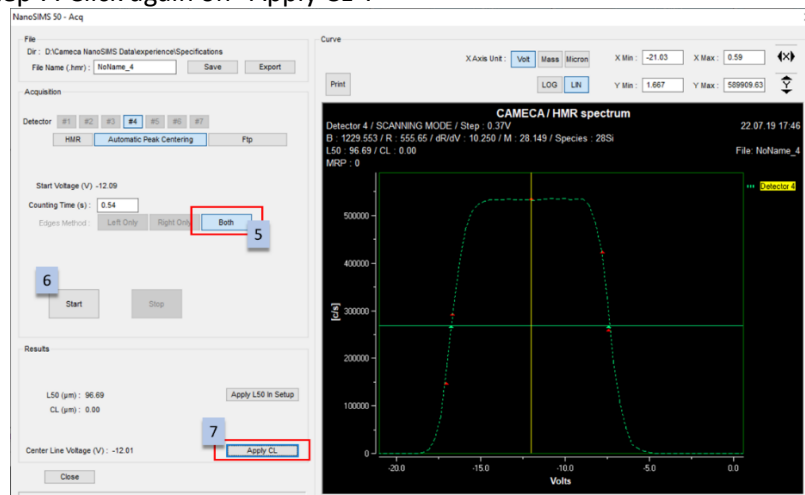

Figure 412: HMR automatic peak centering with a single peak
- b. New options appear (see Figure 412).